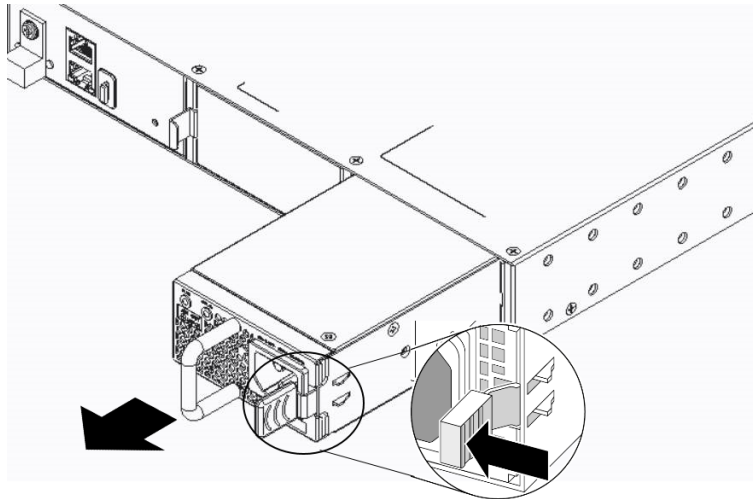

Figure 30: Removing a 800 W AC Power Supply
5. Push the latching tab toward the power supply handle and pull outward on the handle to disengage the power supply internal connectors. See Figure 30.